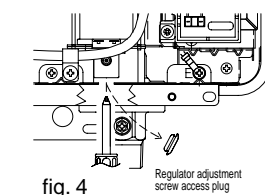

fig. 4
6. Fix the remote controller to the wall and fasten with phillips head screws as shown in fig 4.
7. Remove the protective plastic film from the controller face as shown in fig 4.
11. Remove rubber access plug and adjust the regulator screw on the modulating valve (fig. 4) as required to the pressure. Table 1. Replace rubber access plug.